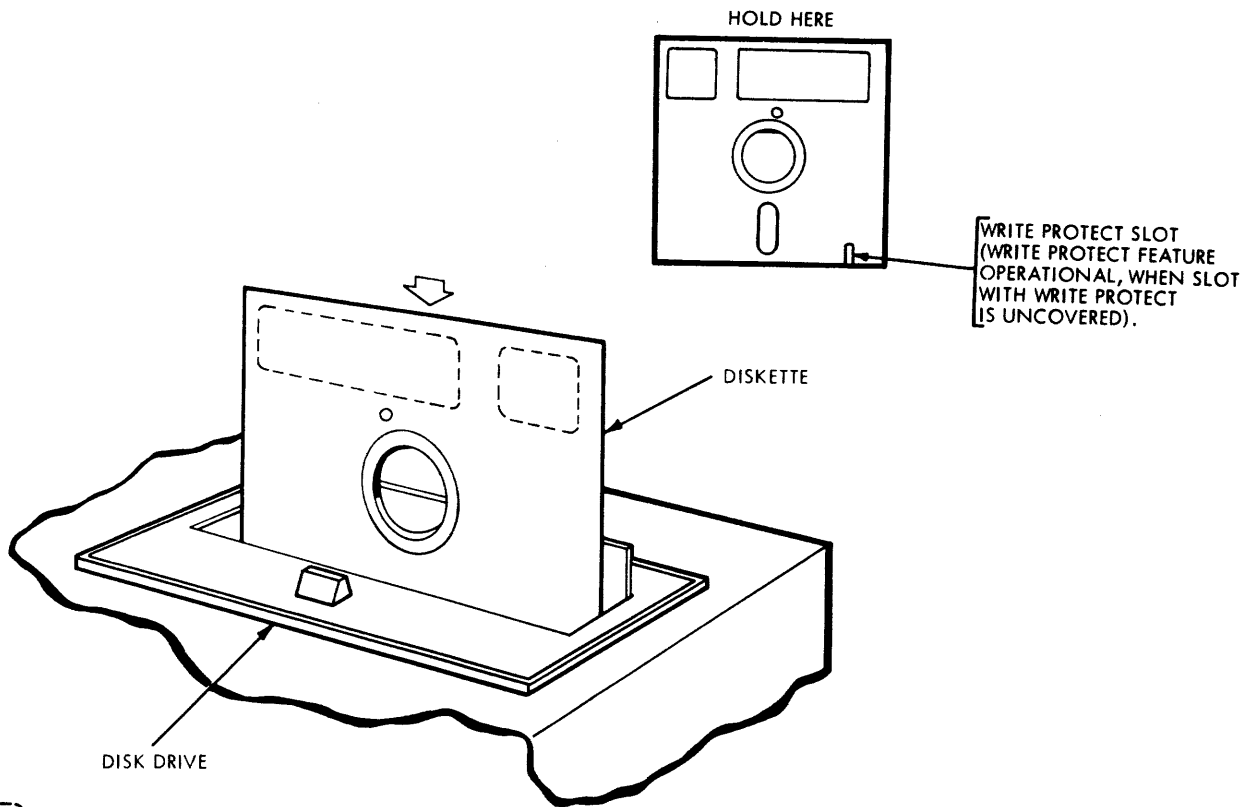

FIGURE 2-1. DISKETTE INSTALLATION
- d. On units with the Write-Protect option, be sure the Write-Protect slot in the jacket is open, as shown in Figure 2-1, if the diskette is to be write-protected.
- f. Carefully slide diskette into FDD, as shown in Figure 2-1, until jacket is solidly against stops.